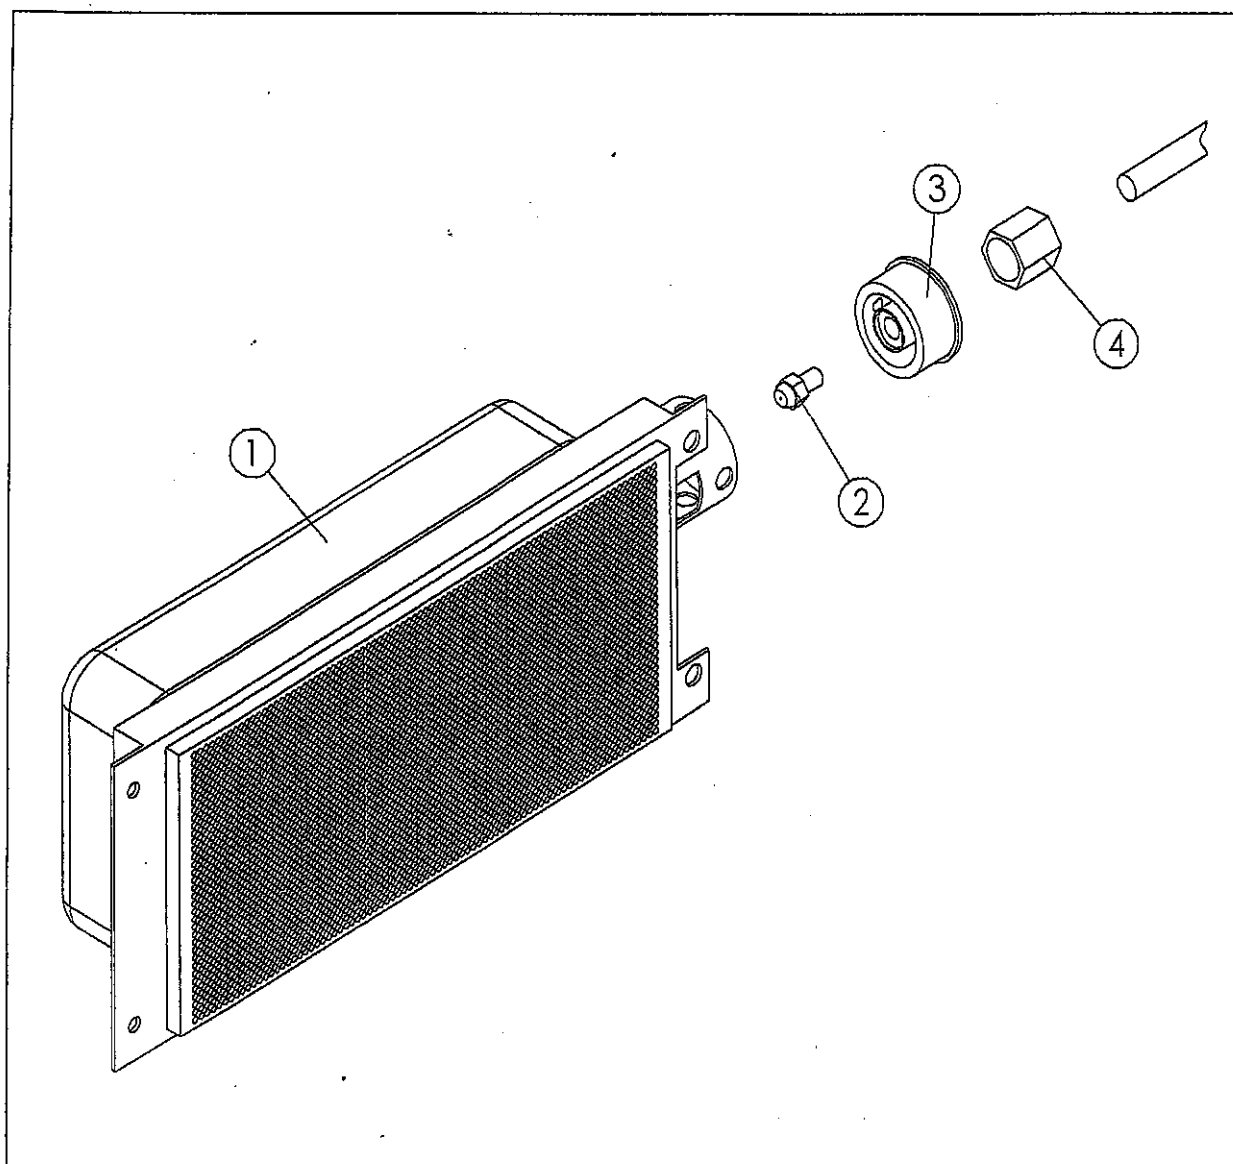

Fig. 2
3.2 CHANGING THE MAIN BURNER'S NOZZLE (Fig. 2)
In order to change the nozzle (**No 2, Fig. 2**), unbolt it and bolt the appropriate nozzle. In every appliance you will find in a socket the appropriate nozzles for natural gas.